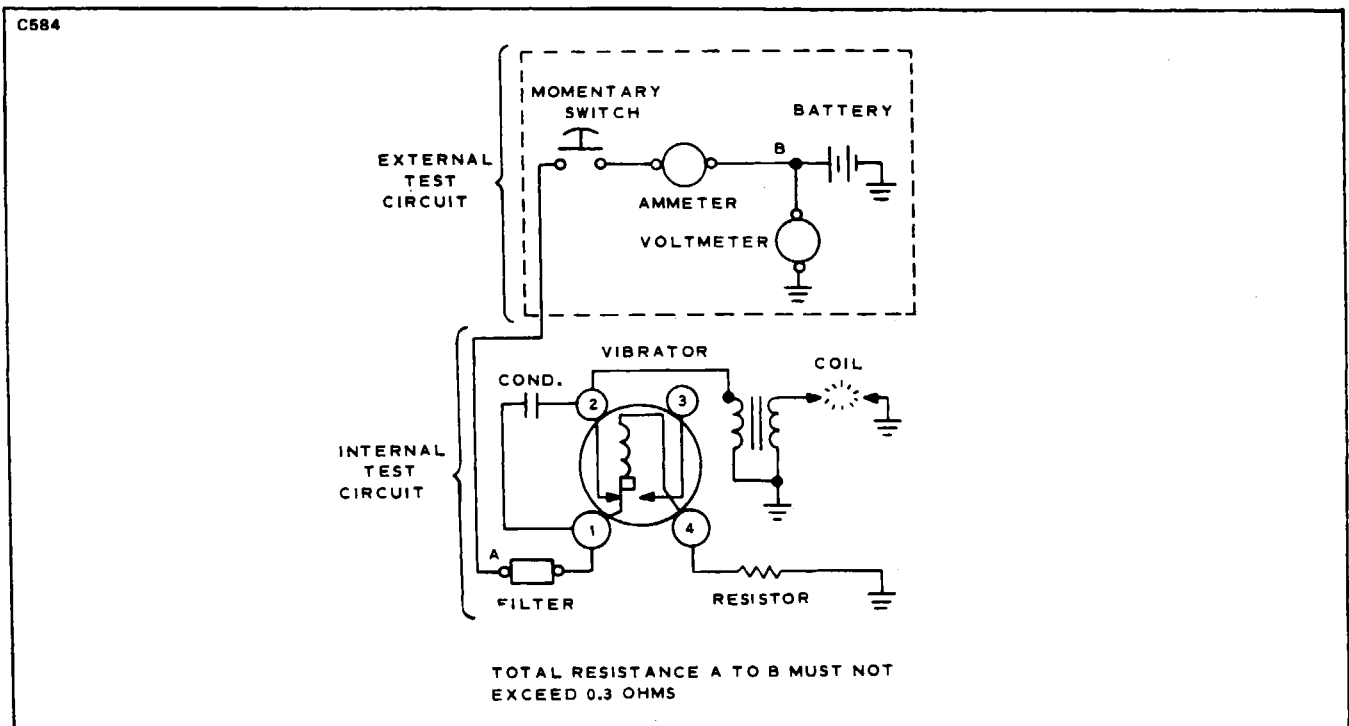

Figure 13-28b. Wiring - Test Setup
6. Arrange the test equipment as shown in Figure 13-28b.